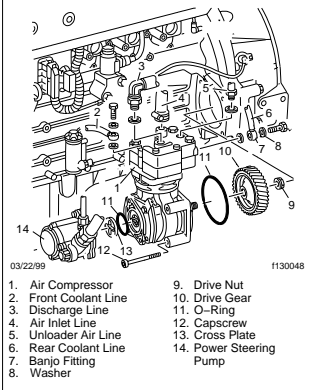

Fig. 1, Air Compressor Installation
6. Disconnect the discharge line from the air compressor and move it away from the compressor. See **Fig. 1**.